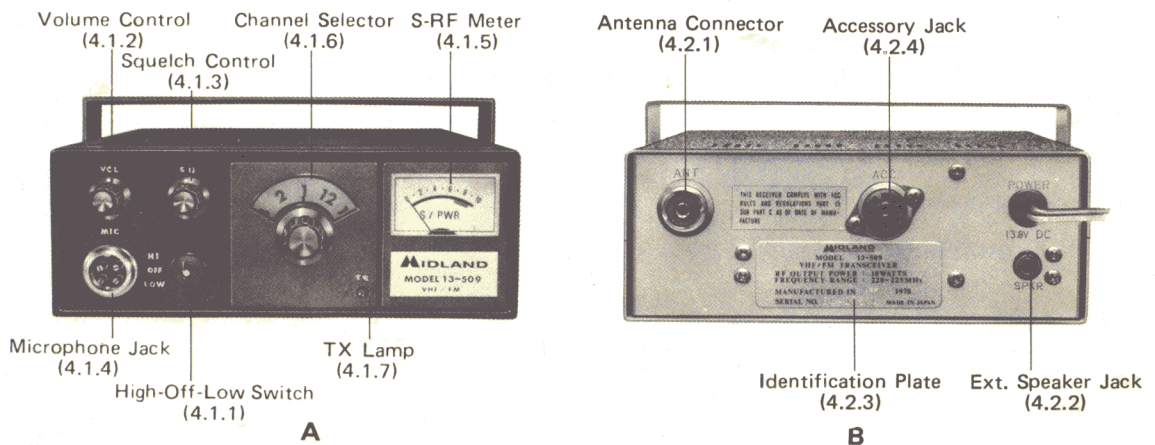

Figure 2
4.1 Front control and jack (Fig. 2-A).
4.2 Rear Panel (Fig. 2-B)